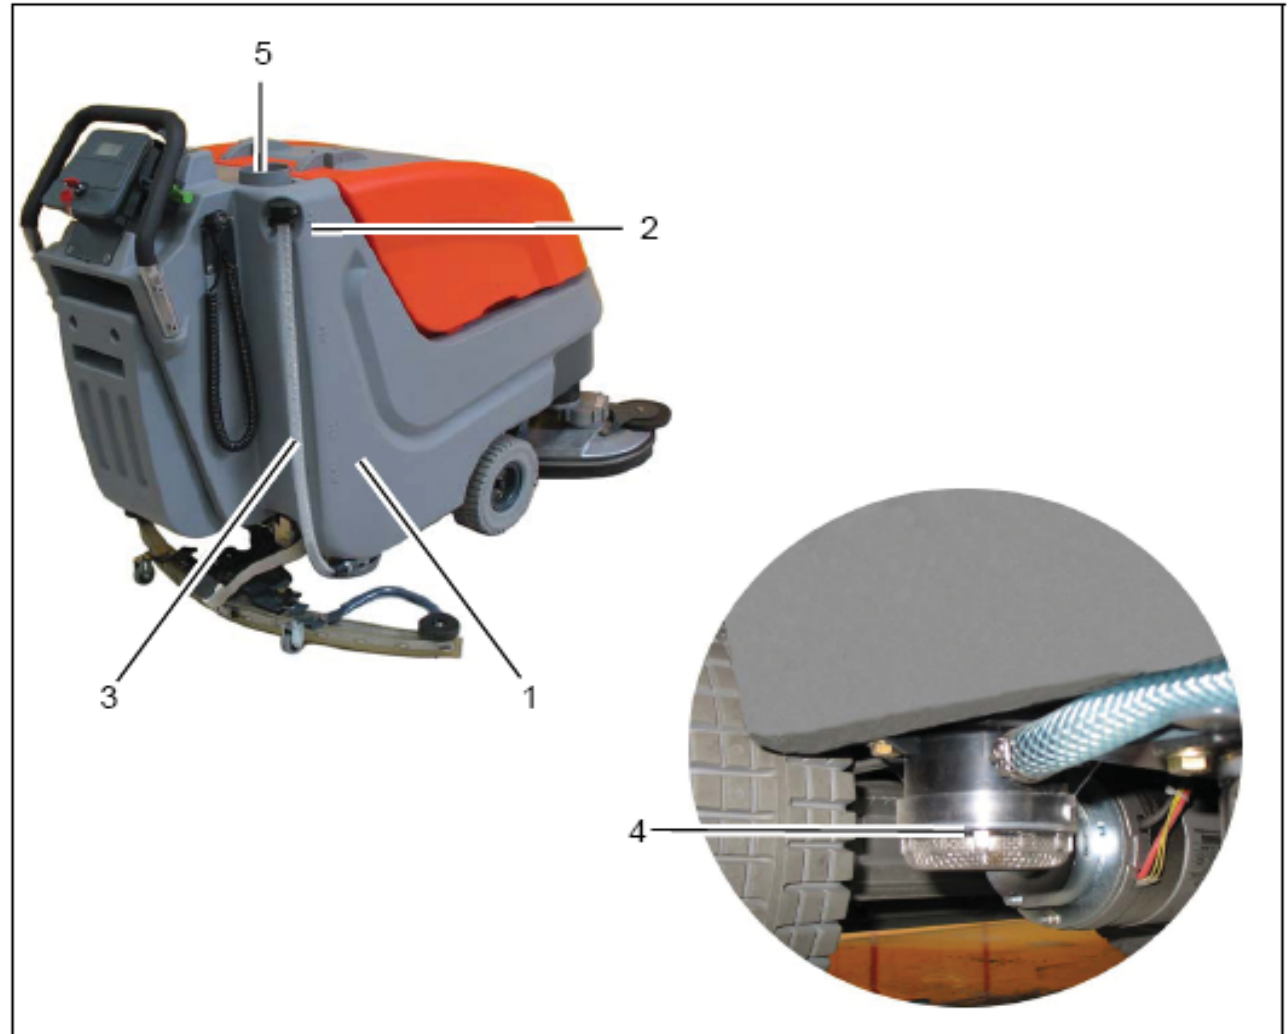

Fig.8
Fill Clean water tank (Fig. 8/1) before operation or as required. Park vehicle on level ground. Open tank lid (Fig. 8/5) and fill tank with Clean water up to the maximum (1/1 marker) (Fig. 8/2).
Alternatively, filling of the machine via quick coupling (Fig. 8/6) is available.
Park vehicle such that the fill level hose (Fig. 8/3) is located above the drain aperture in the floor. Take fill level hose from holder and remove cap.
Check clean water filter (Fig. 8/4) at weekly intervals. Clean or replace if required.
1. Empty solution solution tank (Fig. 8/1) see paragraph 5.5.2.